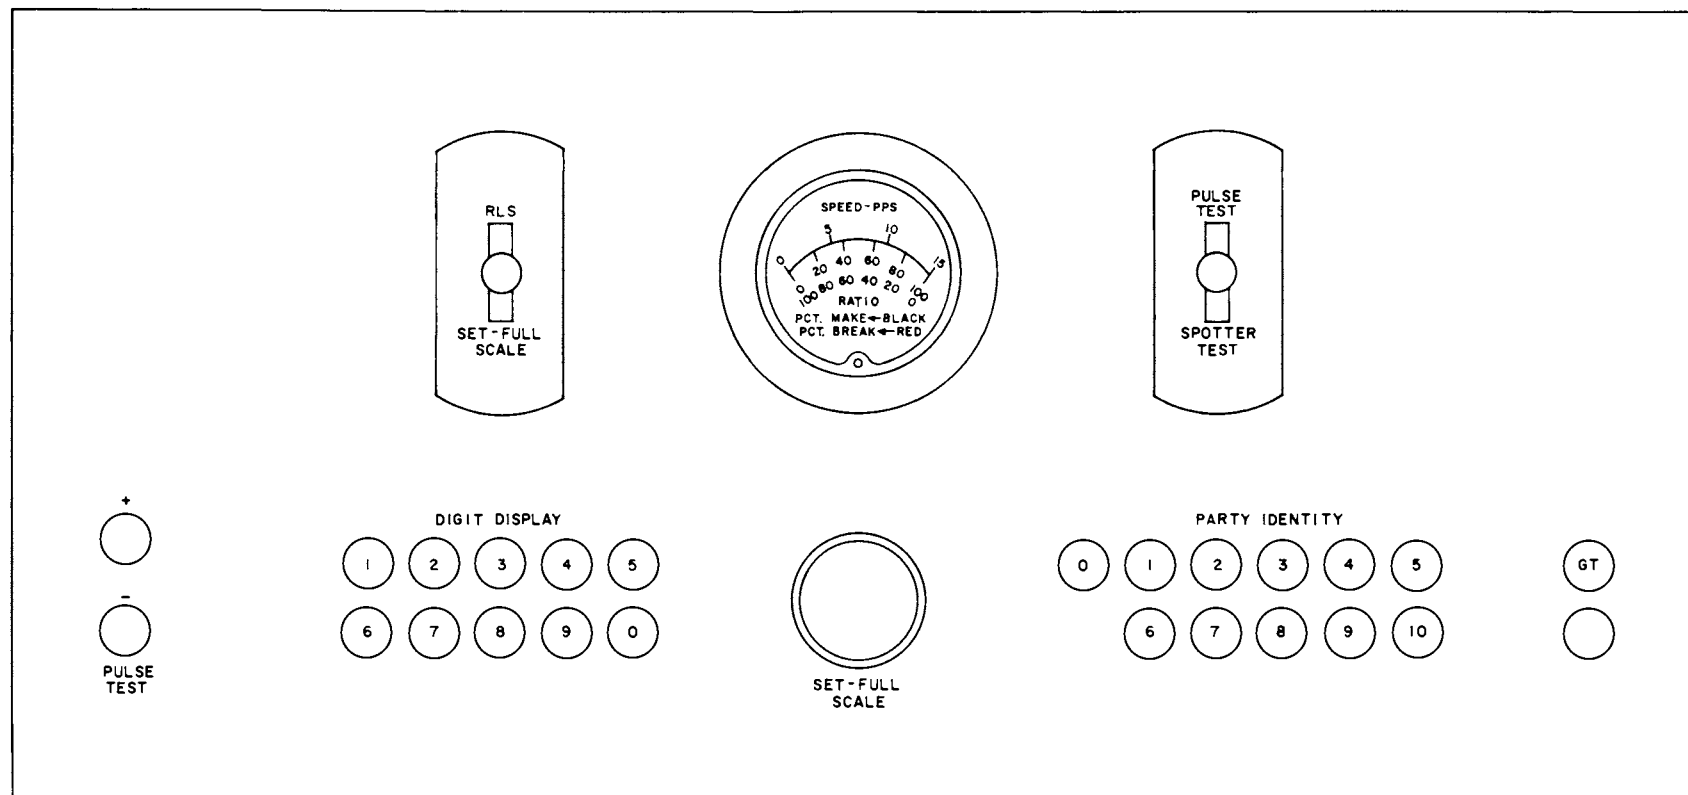
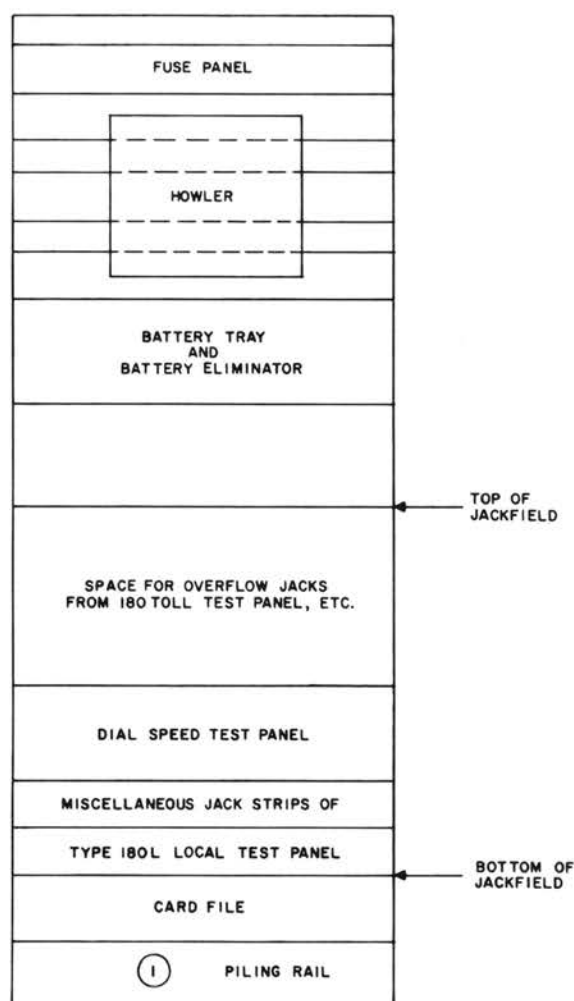

Figure 6. Dial speed test panel.
Figure 7. Typical layout of equipment mounted on the relay rack.
- a. **Dial Speed Test Panel.** The Dial Speed Test Panel (figure 6) provides dial testing facilities for regular and SATT installations. When used as a regular dial testing facility, the DIGIT DISPLAY, PARTY IDENTITY, and GT (ground test) lamps and keys RLS and SPOTTER TEST are wired but not used. The Dial Speed Test Panel mounts within the jackfield (figure 7). The function of the Dial Speed Test Panel lamps and keys is described in section 3.4.
- b. **Howler.** The howler is an optional component used to place howler tone on a line to attract the attention of a customer who has failed to return the handset to its cradle. The howler is mounted on the relay rack directly above the test battery (figure 7) or battery eliminator (see paragraph 2.2.4).
The Type 180L Local Test Panel mounts a test battery or battery eliminator for a test voltage source of 150-volt and 15-volt dc. The battery or battery eliminator mounts on a battery tray located on the relay rack above the jackfield (figure 7).
The Type 180L Local Test Panel can be equipped with a trouble ticket card file. This card compartment mounts below the jackfield as shown in figure 7.